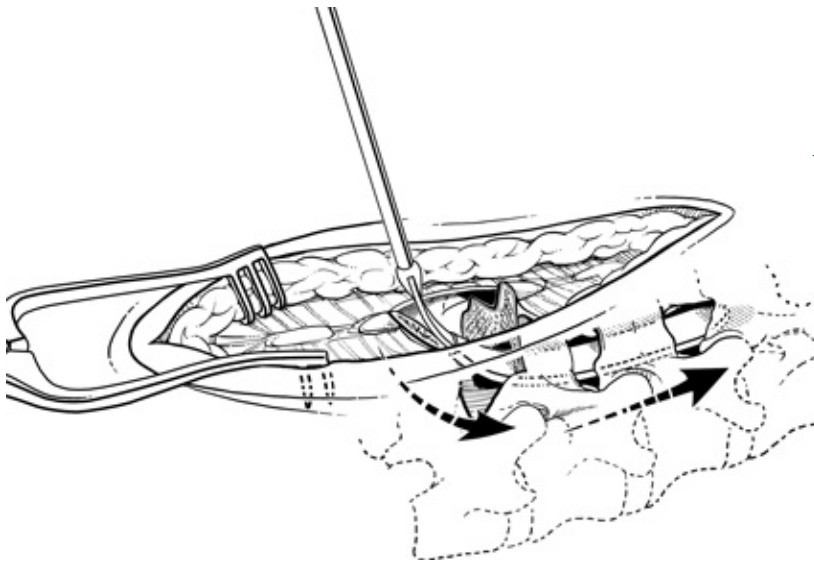

FIGURE 30
- ② Slowly and with minimal force introduce the passing elevator into the epidural space along the midline (FIGURE 30), guiding the entry so that the approach angle is as shallow as possible.